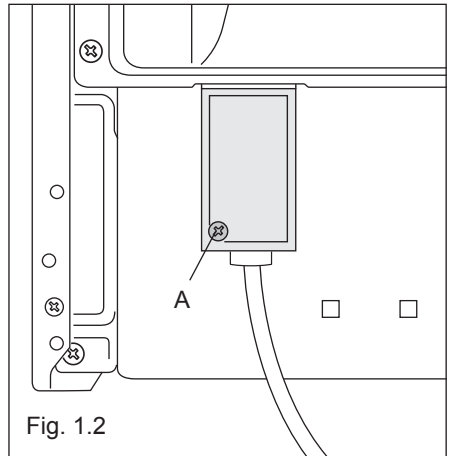

Fig. 1.2
- Remove the screws securing the cover "A" on the rear of the cooker (fig. 1.2).